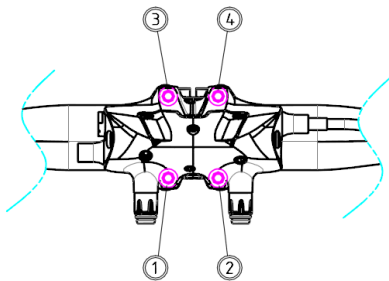
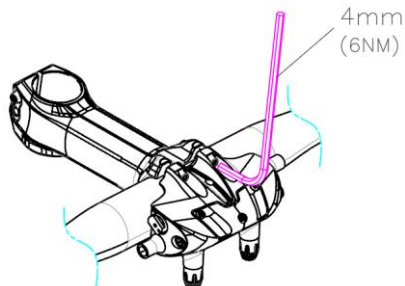

Fig. E-1 Torquing sequence
Fig. E-2 Locking torque 6 Nm
- Tighten Stem bolts following the sequence shown **(Fig. E-1)**, fastening torque is 6 Nm **(Fig. E-2)**